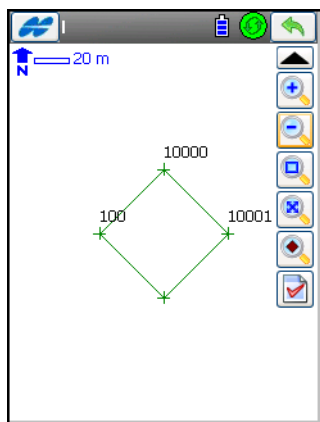

Figure 6-14. Map View for Line Pints with Control Codes
2. The R control code is applied to the third point of a three point polyline, and results in the automatic creation of a fourth point of a parallelogram whose diagonal is specified by the first and the third point (Figure 6-14).